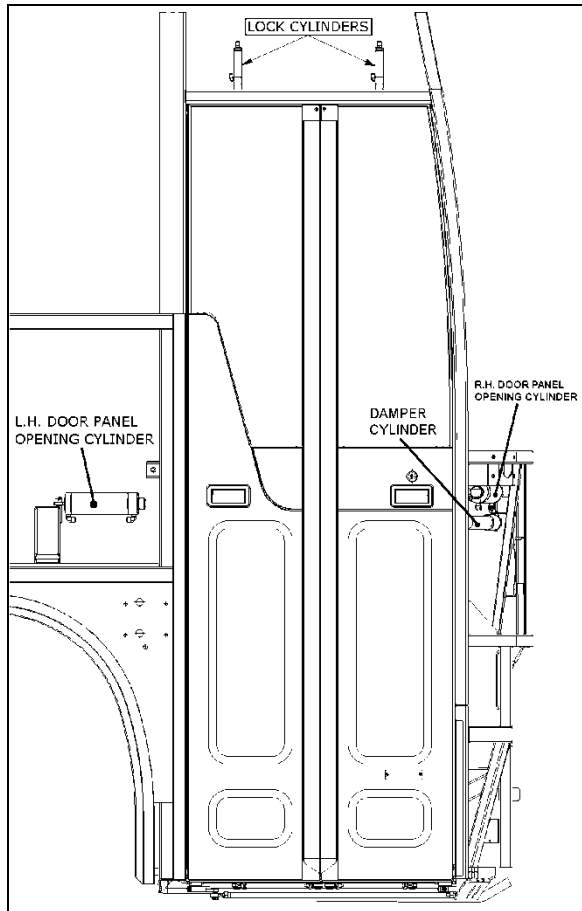

FIGURE 23: ENTRANCE DOOR - VIEW FROM OUTSIDE
In figure 23, if there is an indentation (B) in the dust cap (C) and the cover shows two holes (A), the damper is fitted with a bump rubber (D). If so, fully extend the damper and insert a round bar or screwdriver through the holes. Push the bump rubber down and remove. Remove the split plastic collar (E) (if fitted) from the piston rod.